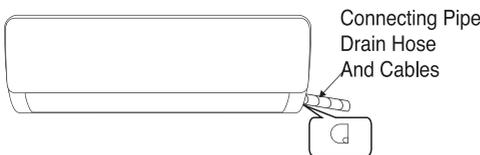
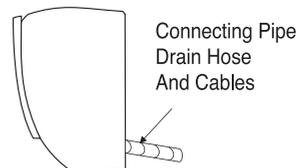

Fig.1
Fig.2
1. Depending on the position of the unit, the piping may be routed sideway from the left or the right (Fig 1), or vertically from the back(Fig 2) (depending on the pipe length of the indoor unit). In the case of sideway routing, cut off the outlet cutting stock of the opposite side.